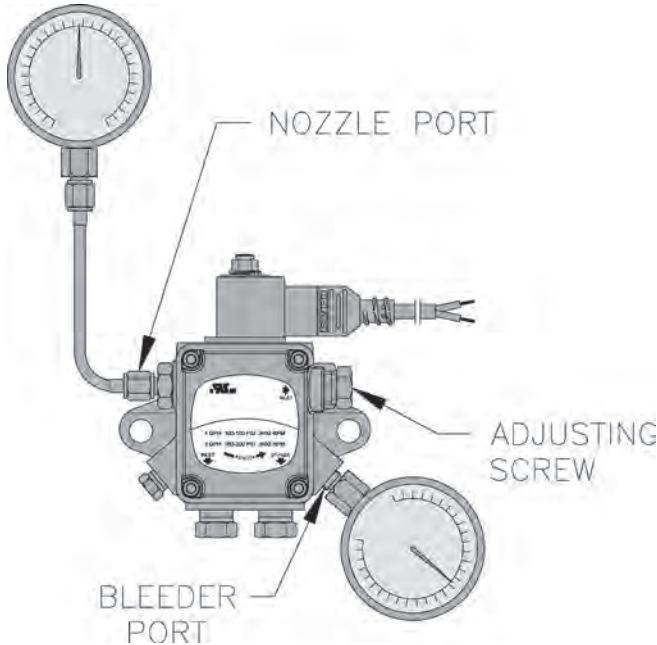

Figure 29: Adjusting Fuel Pump Pressure
- a. When checking a fuel unit's operating pressure, a reliable pressure gauge may be installed in either the bleeder port or the nozzle port. See Figure 29.